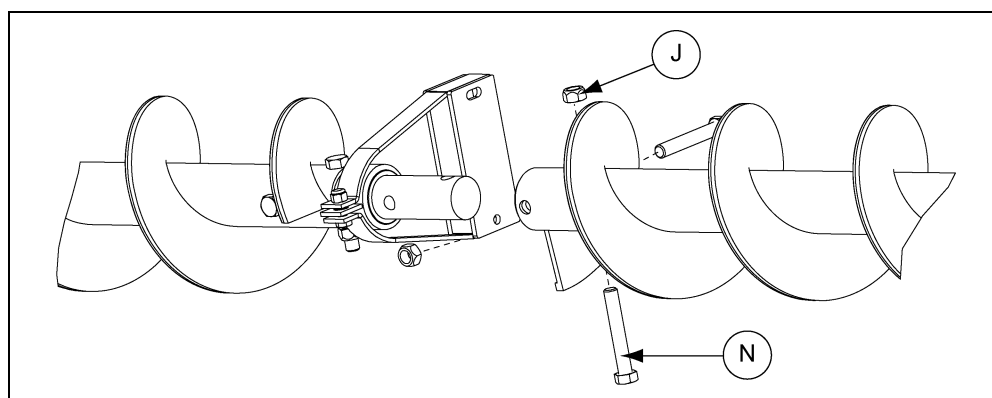

Figure 4AK
7. Install the next section of sweep flight. Bolt it to the connecting shaft using two (2) 5/8" x 4" grade 8 bolts (N) and stover nuts (J). (See Figure 4AK.)